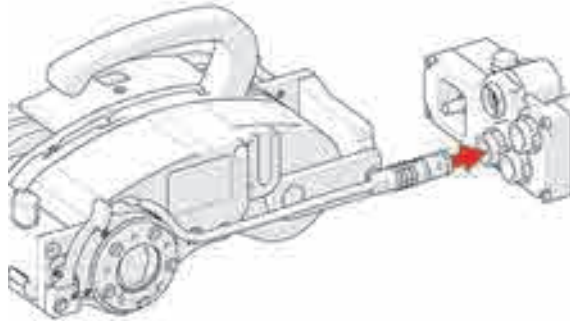

Figure 4-9 Connect to umbilical
1. Connect the umbilical by first plugging in the SteerROVER scanner's connector (see Figure 4-9 on page 99).